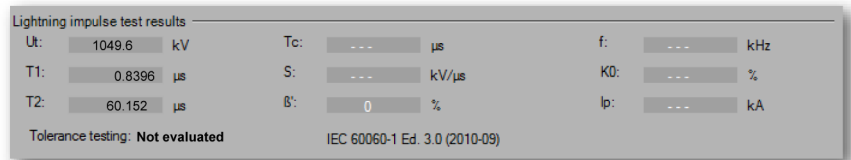

Figure 1.3: Lightning impulse test results (A)
The results are always displayed as described in Figure 1.3 "Lightning impulse test results (A)" on page 11 and the following figures.